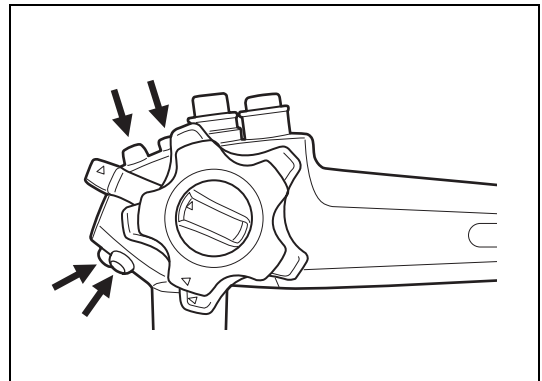

Figure 3.2
- 1** Press each button on the control body of the endoscope and make sure a confirmation tone sounds. (Refer to Figure 3.2)